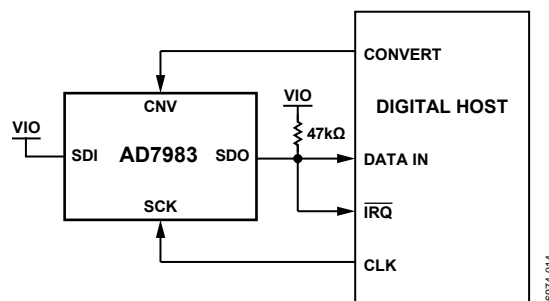
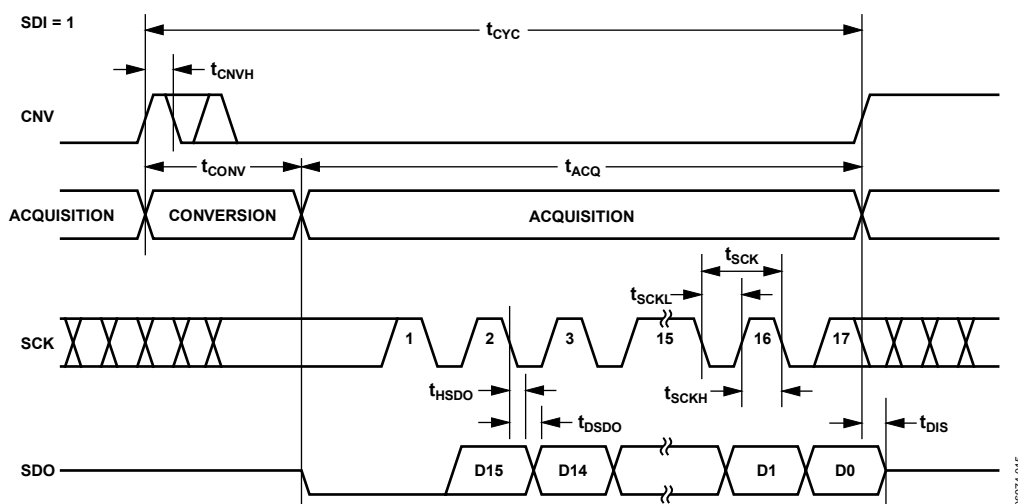
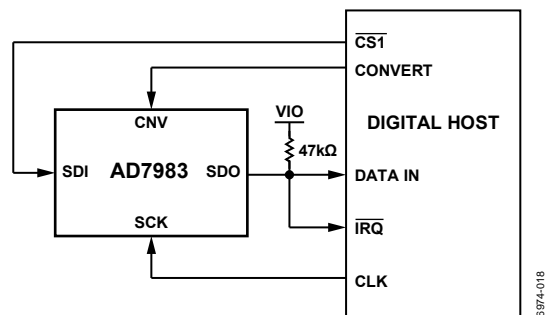
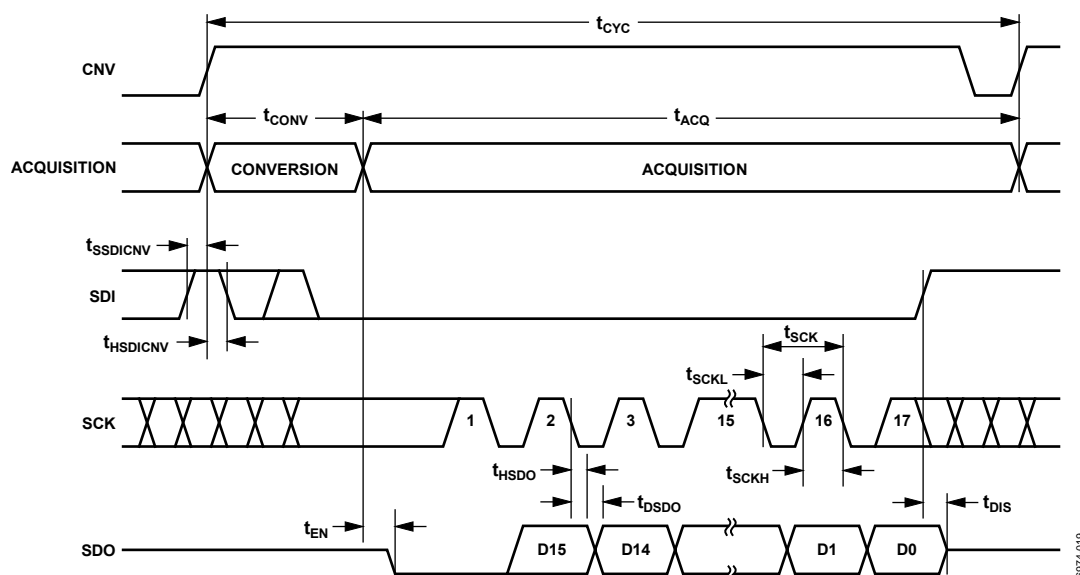

Figure 28. $\overline{\text{CS}}$ Mode, 3-Wire with Busy Indicator Connection Diagram (SDI High)
Figure 29. $\overline{\text{CS}}$ Mode, 3-Wire with Busy Indicator Serial Interface Timing (SDI High)
Figure 32. $\overline{\text{CS}}$ Mode, 4-Wire with Busy Indicator Connection Diagram
Figure 33. $\overline{\text{CS}}$ Mode, 4-Wire with Busy Indicator Serial Interface Timing
- In $\overline{\text{CS}}$ mode if CNV or SDI is low when the ADC conversion ends (see Figure 29 and Figure 33).
The connection diagram is shown in Figure 28, and the corresponding timing is given in Figure 29.
The connection diagram is shown in Figure 32, and the corresponding timing is given in Figure 33.